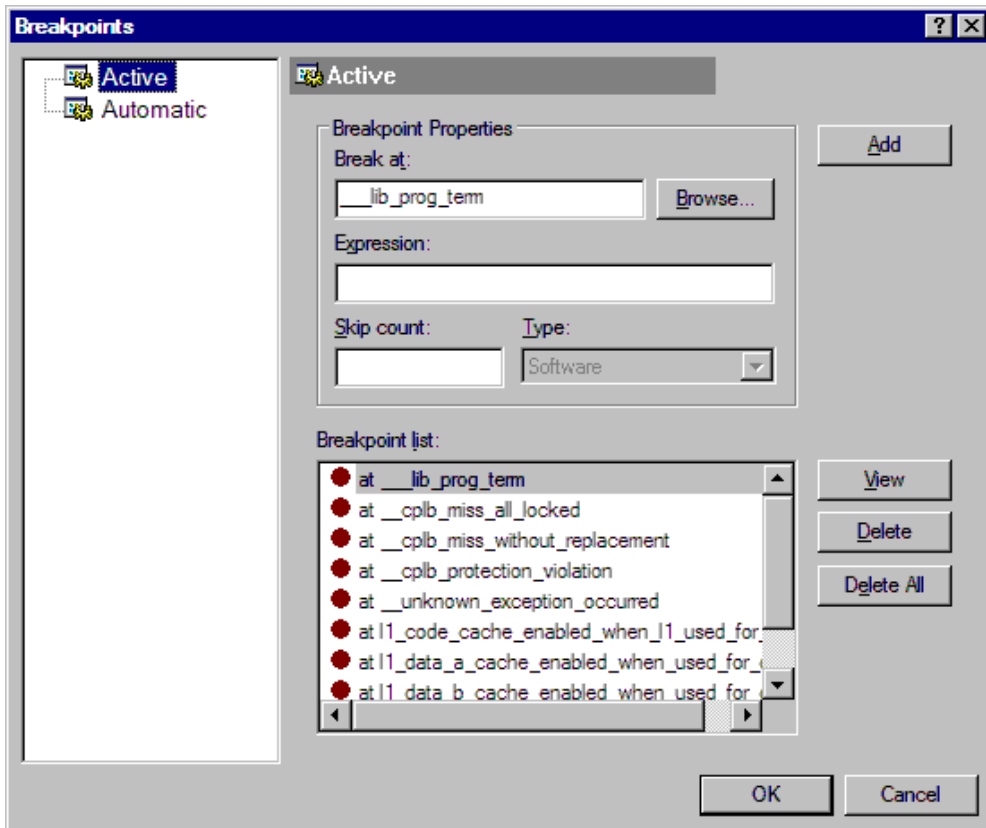

Figure 2-9. Breakpoints Dialog Box
5. From the **Settings** menu, choose **Breakpoints** to view the breakpoints set in your program. VisualDSP++ displays the **Breakpoints** dialog box, shown in Figure 2-9.